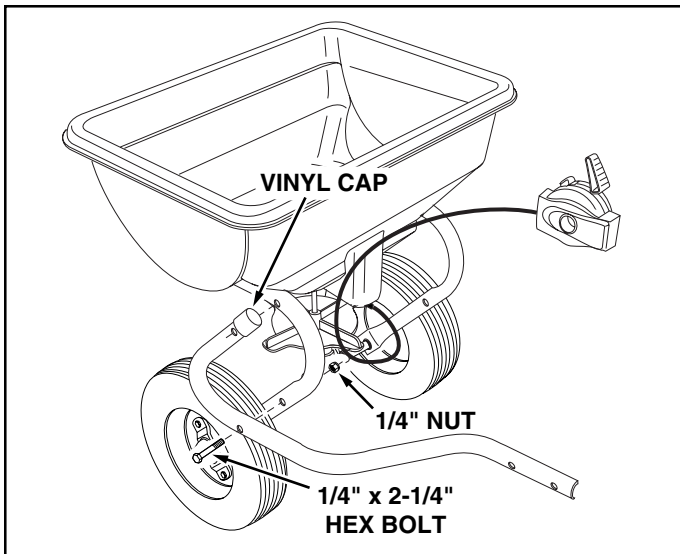

FIGURE 1
1. Assemble vinyl caps onto the ends of the R.H. and L.H. Hitch Tubes. See figure 1.
2. Assemble the R.H. Hitch Tube to the spreader frame tube using two 1/4" x 2-1/4" hex bolts and 1/4" nuts. **Do not tighten yet.** Repeat for L.H. Hitch Tube. See figure 1.